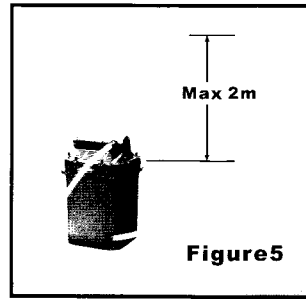

Figure 5
- Maximum height between filter and outlet of water pipe should be 2 m. (As Figure 5)